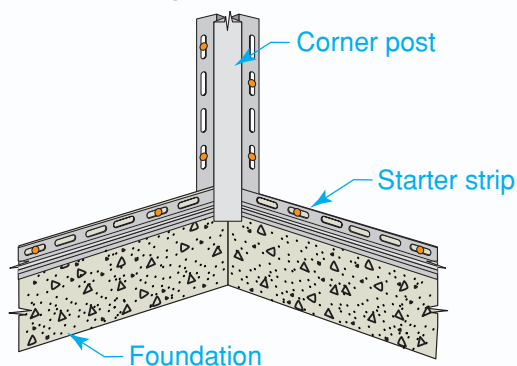

Figure 23-22 Corner Posts
Step 2 The ends of the corner posts should be $\frac{1}{4}$ " below the bottom of the starter strips. Plumb each post carefully. Then nail it to the sheathing through the uppermost nailing slot on each side. The post should "hang" on these nails. Continue nailing down the length of the post on both sides. Install all inside and outside corner posts in similar fashion (**Figure 23-22**).